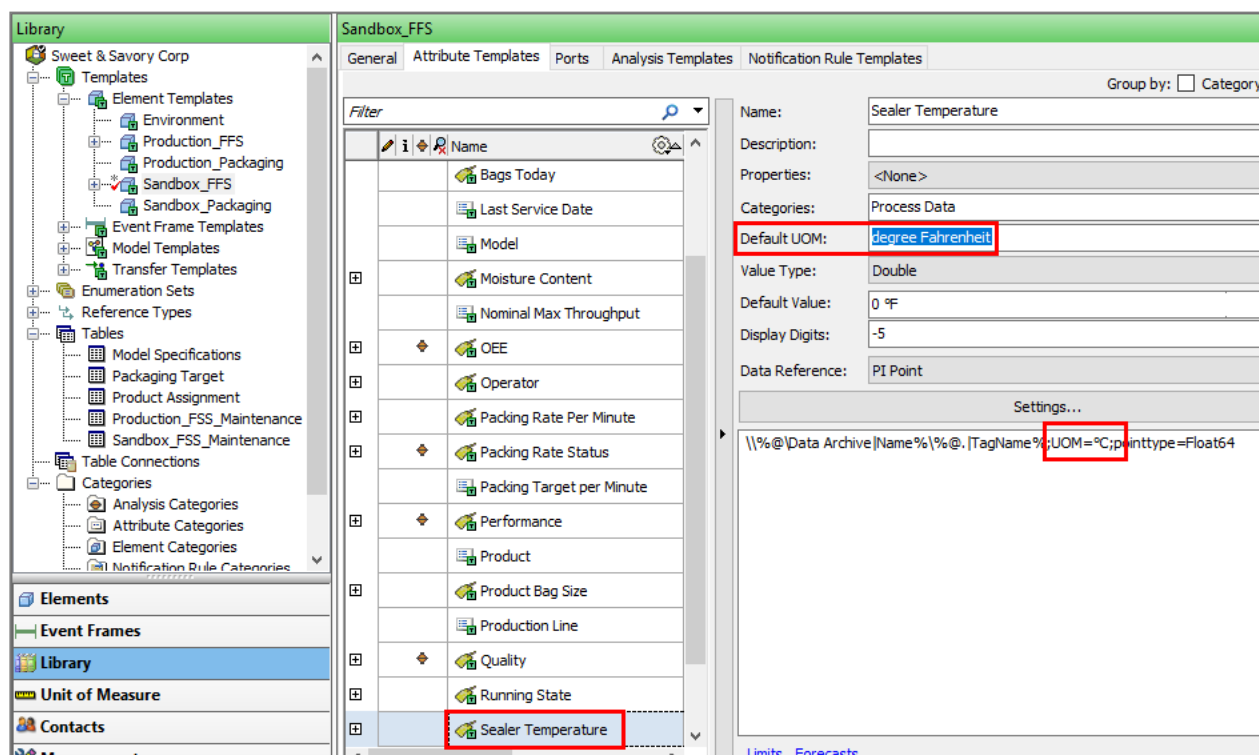

Figure 10. Default UOM vs Source Unit
Step 5. Click OK and verify that the **Default UOM** is still °F (Figure 10). The **Default UOM** configuration field defines the unit of measure used to display the attribute's values on client applications.